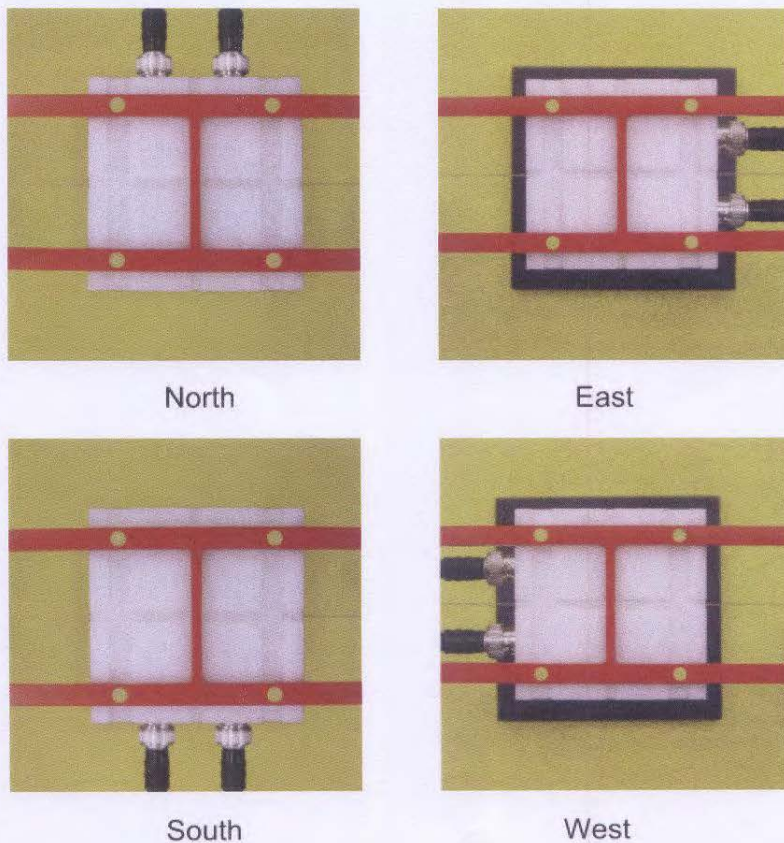

Fig. 1 TMFS scanning measurement configurations
- **Coordinate System:** The TMFS is mounted underneath the HAC Test Arch touching equivalently to a wireless device according to [2] 29.2.2.: In "North" orientation, the TMFS signal connector is directed to the north, with x and y axes of TMFS and Test arch coinciding (see fig. 1). The rotational symmetry axis of the TMFS is aligned to the center of the HAC test Arch. For East, South and West configuration, the TMFS has been rotated clockwise in steps of 90°, so the connector looks into the specified direction. The evaluation of the radial direction is referenced to the device orientation (x equivalent to South direction).